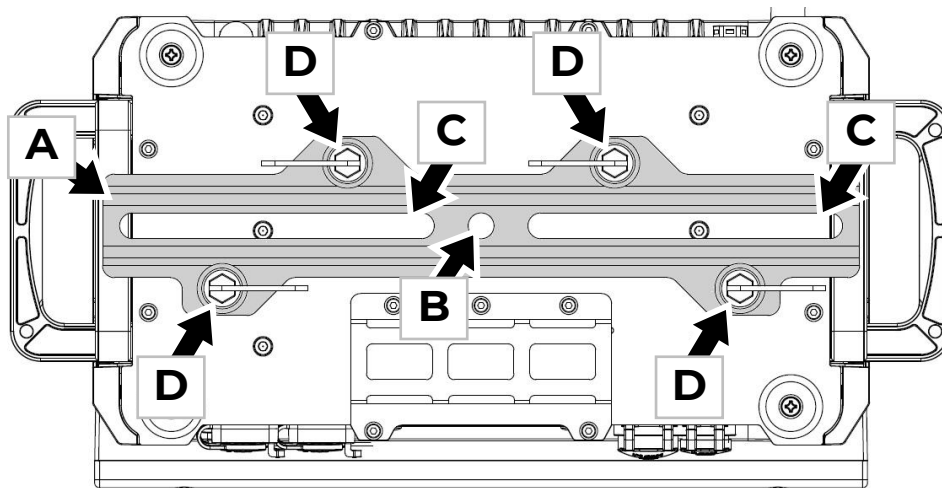
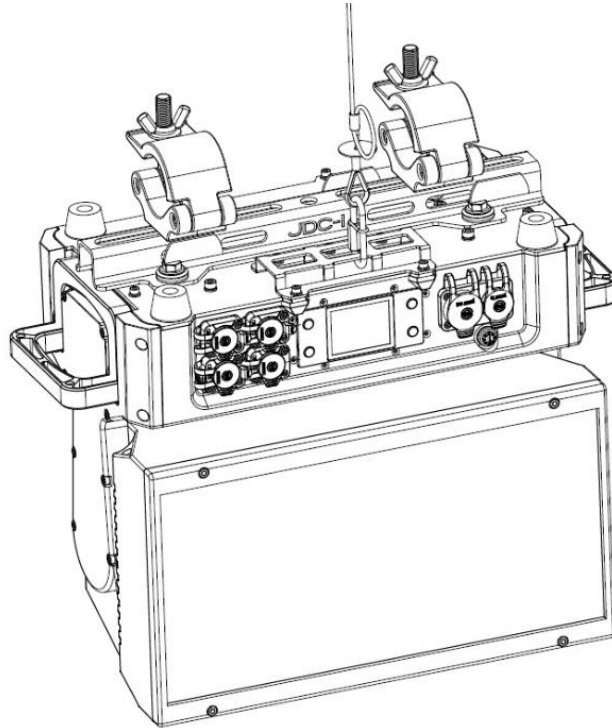

Figure 6. GLP JDC1 Mounting Bracket
Figure 7. Rigging clamps fastened directly to the mounting bracket
- First figure 6: Dust-tight – No ingress of dust, complete protection against contact.
2. See Figure 6. Bolt a rigging clamp securely to the Mounting Bracket **A** using high-tensile steel screws or bolts and self-locking nuts with washers passed through the central hole **B** in the rigging bracket.
2. See Figure 6. Bolt one rigging clamp securely to each of the two slots **C** in the mounting bracket on the base of the unit using two M10 high-tensile steel screws or bolts and self-locking nuts with washers. The fixture should look as shown in Figure 7.